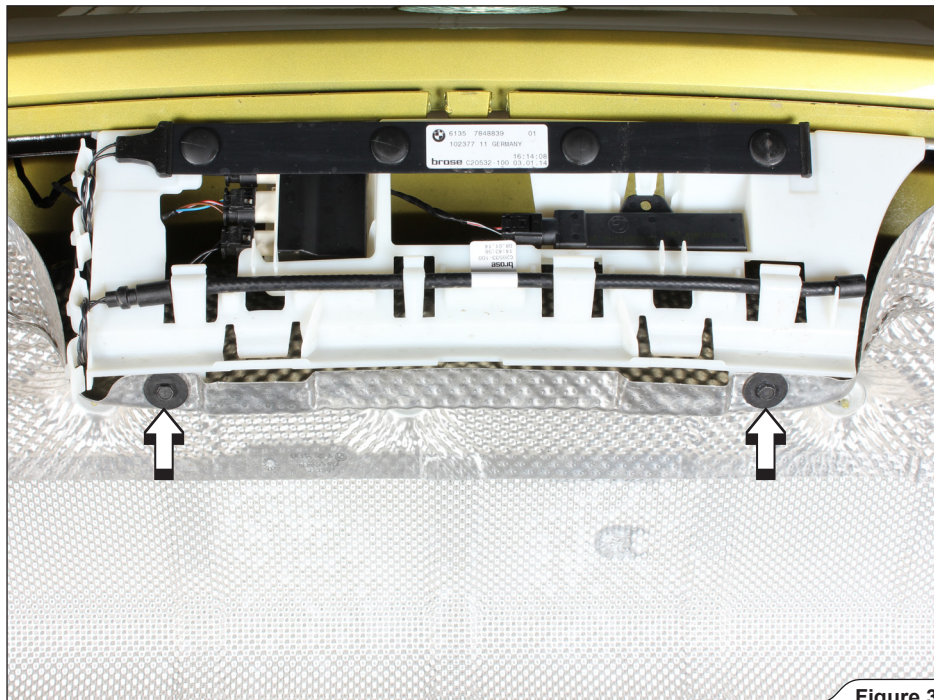

Figure 3
2. Unscrew the marked heat shield bolts on both sides of the vehicle (**Figure 3**).